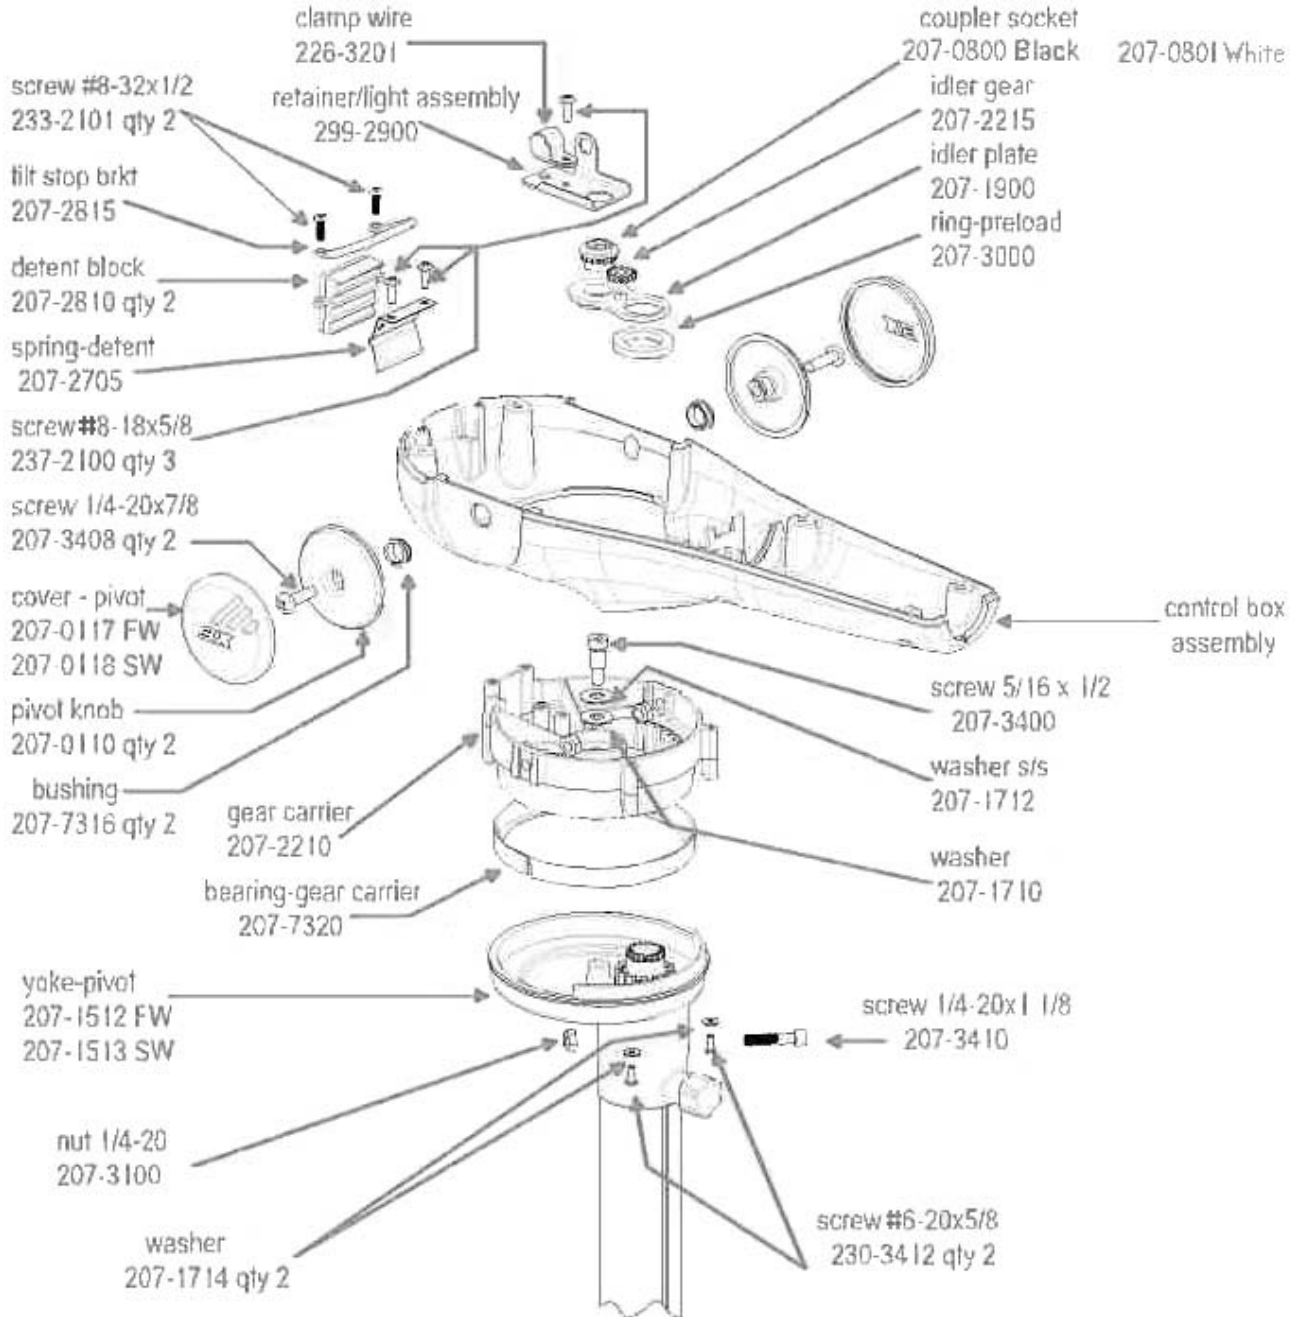

Fig. 4
- Step 5.** Once again, prior to further disassembly, note how the 3X motor wires are routed and held in position by the wire clamp located on the coupler socket retainer / indicator light bracket assembly P/N 2992900. (see Fig. 4, page 17-3) Also note how the directional indicator light wires are twisted and wire tied to the motor wire to prevent the indicator light wires getting in the circular rack and pinion steering gear mechanism.
- C. After removing the retainer / light assembly, remove the coupler socket, idler gear, idler plate, and preload ring (P/Ns 2070800/2070801, 2072215, 2071900, and 2073000). (see Fig. 4)
- Step 6.** Remove the two P/N 2332101 #8-32 x 1/2" tilt stop bracket / detent block retaining screws, then remove -the P/N 2072815 bracket and P/N 2072810 detent block. (see Fig. 4, page 17-3)
- Step 7.** Remove the two soft plastic pivot knob covers (P/N 2070117 or 2070118) to expose the two 1/4-20 x 7/8" Phillips head screws (P/N 2073408) that hold the pivot knob and control box assembly on the gear carrier (P/N 2072210) / pivot yoke (P/N 2071512 or 2072513) assembly. (see Fig. 4, page 17-3)
- A.** Removing the two P/N 2073408 screws (these two screws go in to two nyloc nuts located inside the gear carrier) will allow the control box assembly, pivot knobs, and bushings to be separated from the gear carrier and yoke pivot assembly. (see Fig. 4, page 17-3)
- Step 8.** With the control box assembly removed, unscrew the 5/16" x 1/2" socket head, shoulder shank cap screw (P/N 2073400) that is located in the center of the gear carrier (P/N 2072210). (A 5-32" allen wrench / driver is required.) (see Fig. 4, page 17-3)
- A.** Remove the cap screw along with the washers, then remove the two P/N 2303412 #6-20 x 5/8" Phillips head screws and P/N 2071714 washers that serve to guide/retain the gear carrier on the pivot yoke. (see Fig. 4, page 17-3)
**Step 7.** Re-install the control box with bushing and pivot knobs on to the gear carrier pivot yoke assembly. (see Fig. 4, page 17-3)